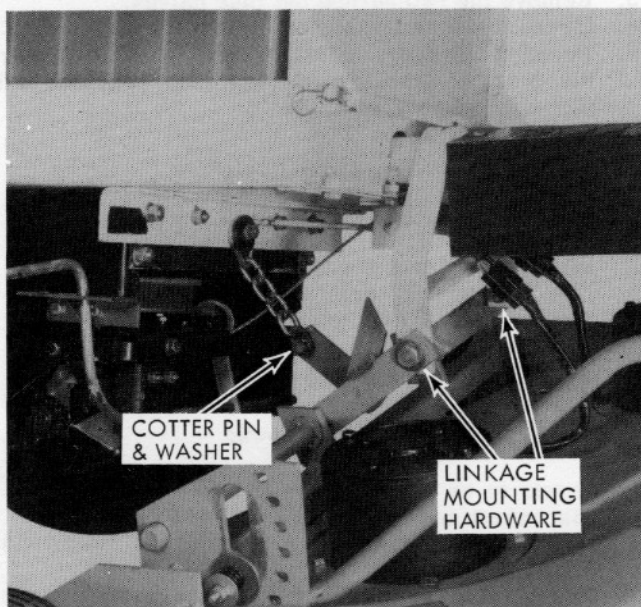

Figure 14.
3. Remove the cotter pin and washer retaining the mower lift chain. Take the chain off the replace washer and cotter pin so they do not get mislaid. (See Fig. 14).
4. Remove linkage mounting hardware from rear hanger (See Fig. 14). Replace hardware in rear hanger so they do not get mislaid.